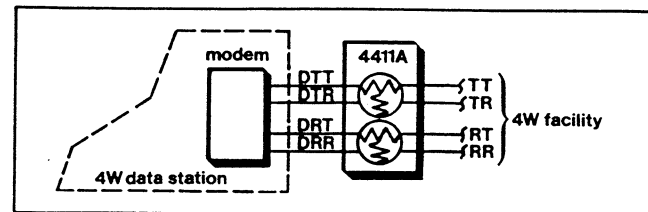

figure 2. Common application of the 4411A
2.03 While the 4411A module is not limited to data applications, it is probably most often used for line treatment and loopback at the modem/4wire transmission facility interface of a data station (figure 2). The 4411A may be required here because levels out of a modem are generally too high for transmission over a Telco facility and an impedance mismatch may exist between the modem and the facility.